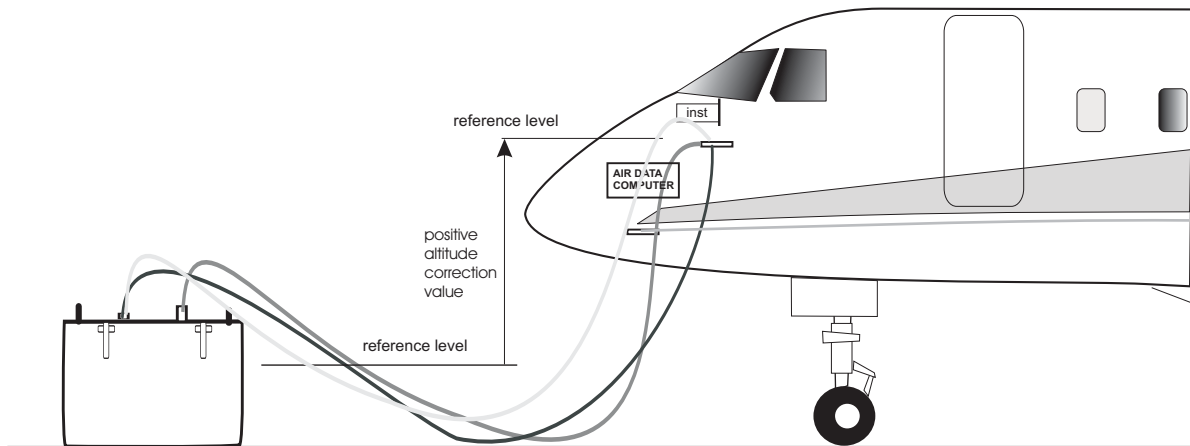

FIGURE 2-2 ADTS 2XX ALTITUDE CORRECTION
3. If necessary carry out an altitude correction, see Figure 2.2.